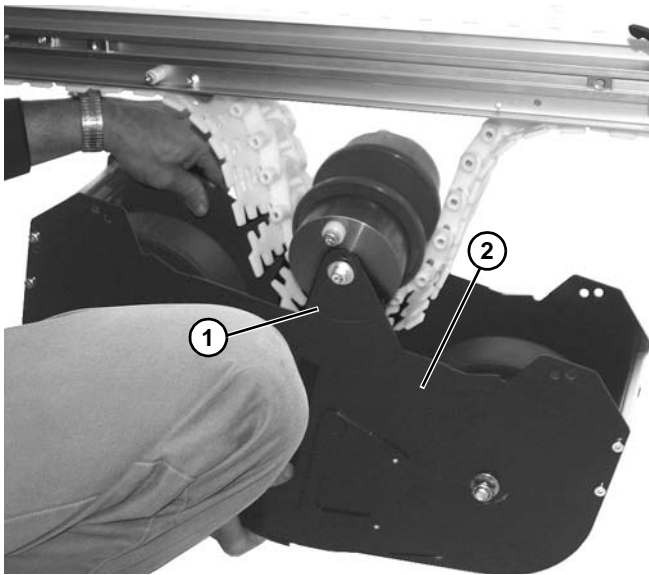

Figure 62
3. Raise weighted take up box assembly, with plate (Figure 62, item 1) on idler pulley assembly on outside of outer plate (Figure 62, item 2) of weighted take up assembly.